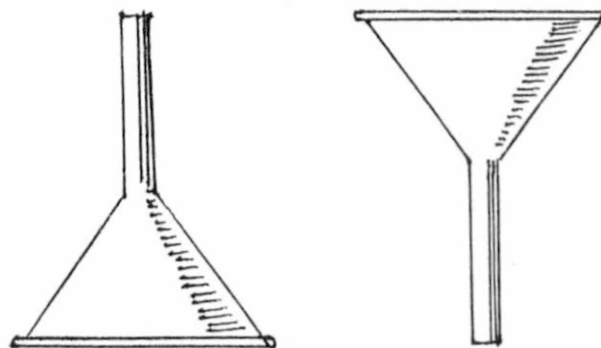

Fig.2.15
1. Take a funnel. Place it on a table on its mouth as shown in Fig.2.15.